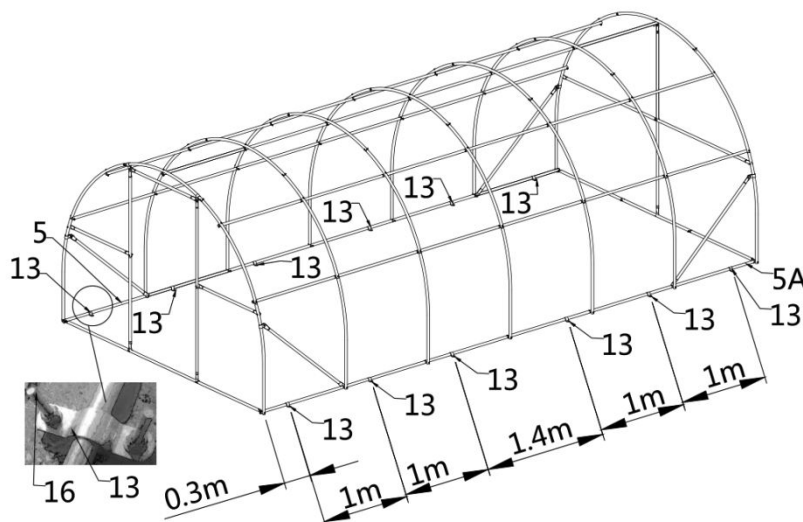

Figure 12
- Fix the roof purlin (#5) and (#5A) close to the ground on the concrete ground with riding clip (#13) and expansion bolt (#16). The installation dimension shown in the figure is for reference (refer to Figure 12). If the truss is installed on the earth ground, it needs to be fixed by inserting at least 11 inch steel bars (not equipped with this product cloth) into the riding clamp.